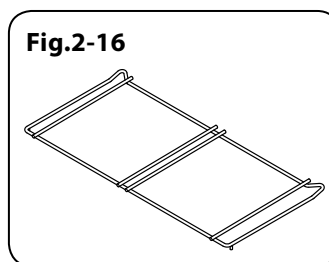

Fig.2-16
- One full capacity shelf with grill tray (**Fig.2-16**)